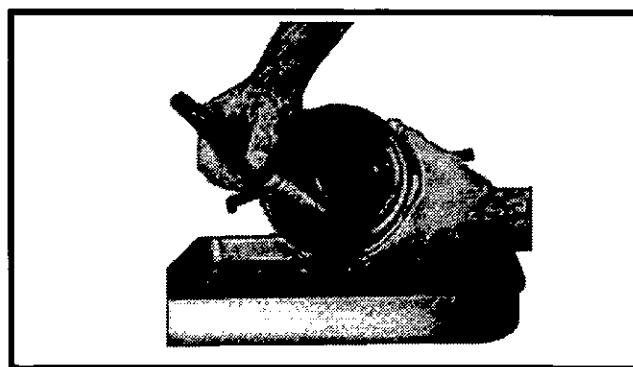

Figure 5-9 Cleaning the Oil Bath Cup
6. Using an appropriate brush wash the oil bath in clean diesel fuel (taking care to protect the skin from contact with the diesel/oil mix), (Figure 5-9) and dry after cleaning with a clean cloth.